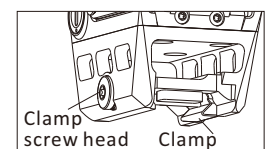

Fig 4
2. Using the included T10 Torx tool, loosen the cross bolt and then attach the sight onto the Picatinny rail in an appropriate position. Apply forward pressure towards the muzzle and tighten the clamp screw to 20 inch/lbs using non-permanent thread lock. (Fig4)